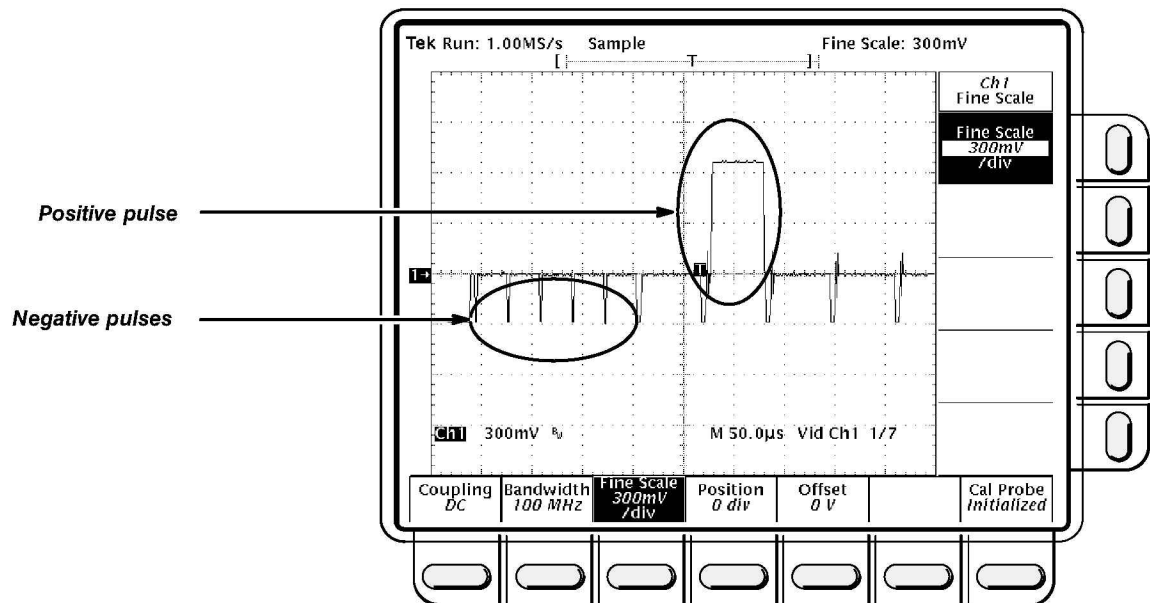

Figure 4-29: Triggered Signal Range Test — 300 mV
- m. CONFIRM that the **TRIG'D** LED stays lit and that the waveform on screen is stable. Stable means the waveform does not move horizontally or vertically. Also, CONFIRM that the waveform on the screen has one positive pulse and a number of negative pulses (see Figure 4-29).